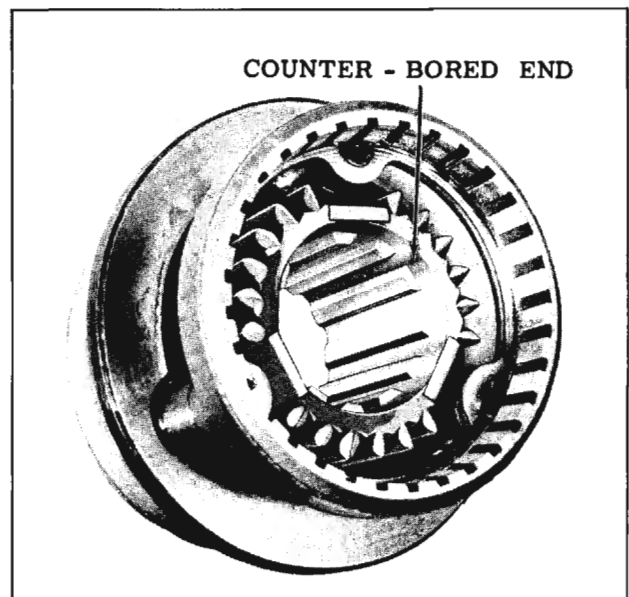

Fig. 11-32 Synchronizing Drum
18. Install the synchronizing drum on the main shaft with the counterbored end of the gear toward the second speed gear. (Fig. 11-32) Engage the synchronizing drum with the second and third speed shifter yoke and index the first and reverse shifter yoke, then tap the main shaft forward until it pilots in the main drive gear and the rear bearing pilots in the case.